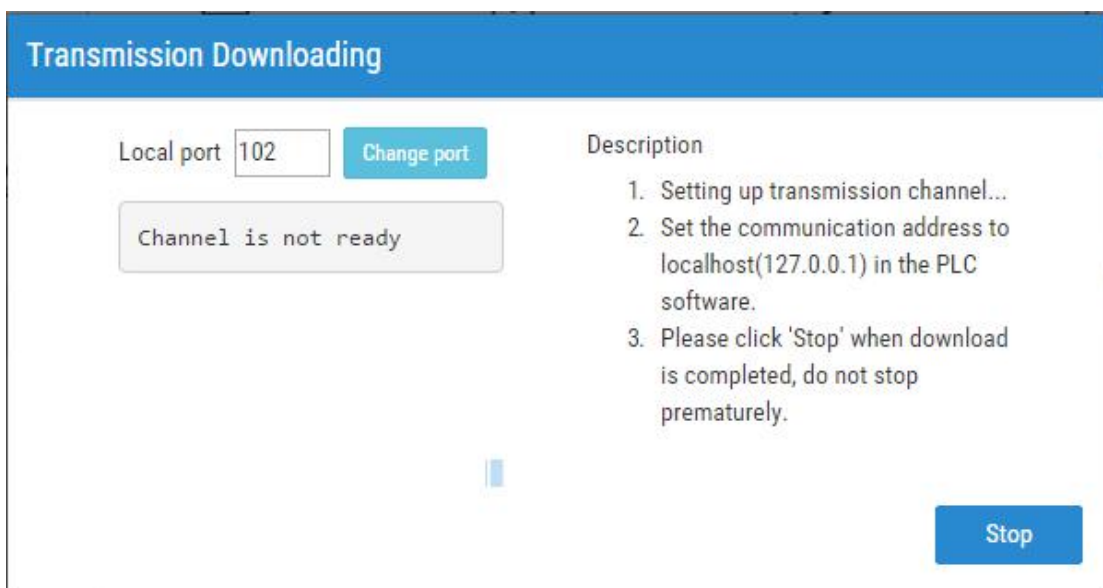

Fig. 4.9-9 The Ethernet "Transmission Downloading" dialog
(1) After selecting the appropriate device required to be downloaded and clicking the "Transmission" button in the "Remote" function page of the FBoxClient client software, a system information dialog will pop up.
(2) Click the "OK" button to display the Ethernet "Transmission Downloading" dialog, as shown in Fig. 4.9-9. If the number of the local port is not consistent with the port number configured in the device connection, you need click the "Change port" button to modify it and make the two consistent.